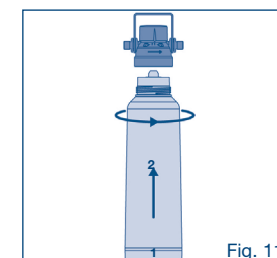

Fig. 11
- Turn the filter anticlockwise in the filter head (see Fig. 11).